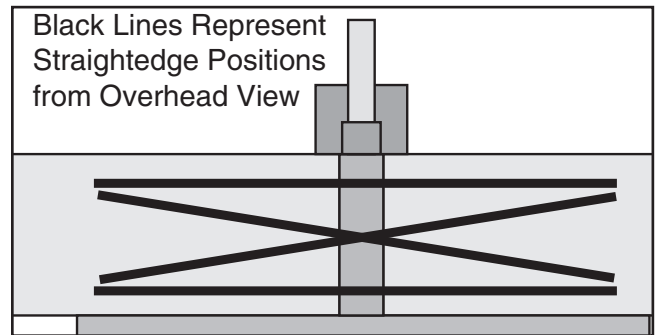

Figure 38. Straightedge positions for checking infeed/outfeed table parallelism.
5. Place the straightedge in the positions shown in **Figure 38**. In each position, the straightedge should sit flat against both the outfeed table and the infeed table.
8. Place the straightedge in one of the positions shown in **Figure 38**, and adjust the eccentric bushings under the infeed table so the straightedge lies flat against both tables. Repeat this step with each of the remaining straightedge positions as many times as necessary until the infeed table is parallel with the outfeed table.